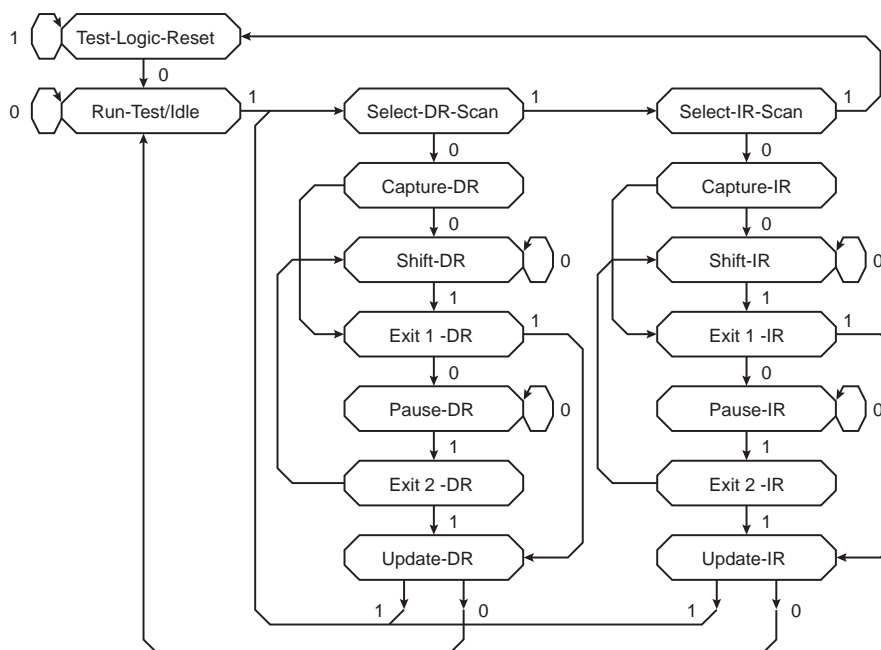

Figure 33-6 TAP Controller State Transition Diagram
The state transition diagram of the TAP controller is shown in Figure 33-6. Each arrow between states is labeled with a 1 or 0, indicating the logic value of TMS that must be set up before the rising edge of TCK to cause the transition.
The following paragraphs describe each of the controller states. The left column in Figure 33-6 is the data column, and the right column is the instruction column. The data column and instruction column reference the data register (DR) and the instruction register (IR), respectively.